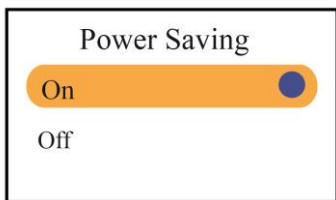

Figure 4.10F Power Saving setup
- **Power saving mode:** To turn on/off the Power Saving mode, the factory default is "On", as shown in figure 4.10F